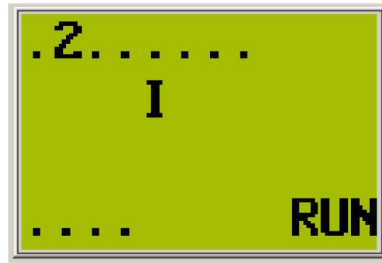

Figure 1-11. PLC's status display after the Energizing procedure.
- ☐ 11. You should obtain the display shown in Figure 1-11.